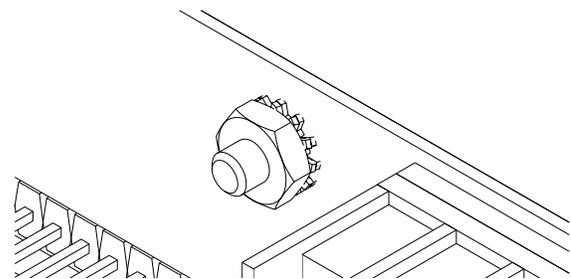

Figure 4.8.1
4.8. CHASSIS GROUND; For safety reasons, and as recommended by NEBs, the chassis should be electrically connected to the rack ground. From step 4.3. the panel should already be ground to the rack via the #12-24 thread forming rack screws and outside tooth lock washers. In addition to grounding via the mounting brackets, it is recommended you ground the chassis using a ground cable and the #10 bolt and locks on the front of the chassis (#10 screw torque; 2 ft-lbs or 2.7Nm) See Figure 4.8.1